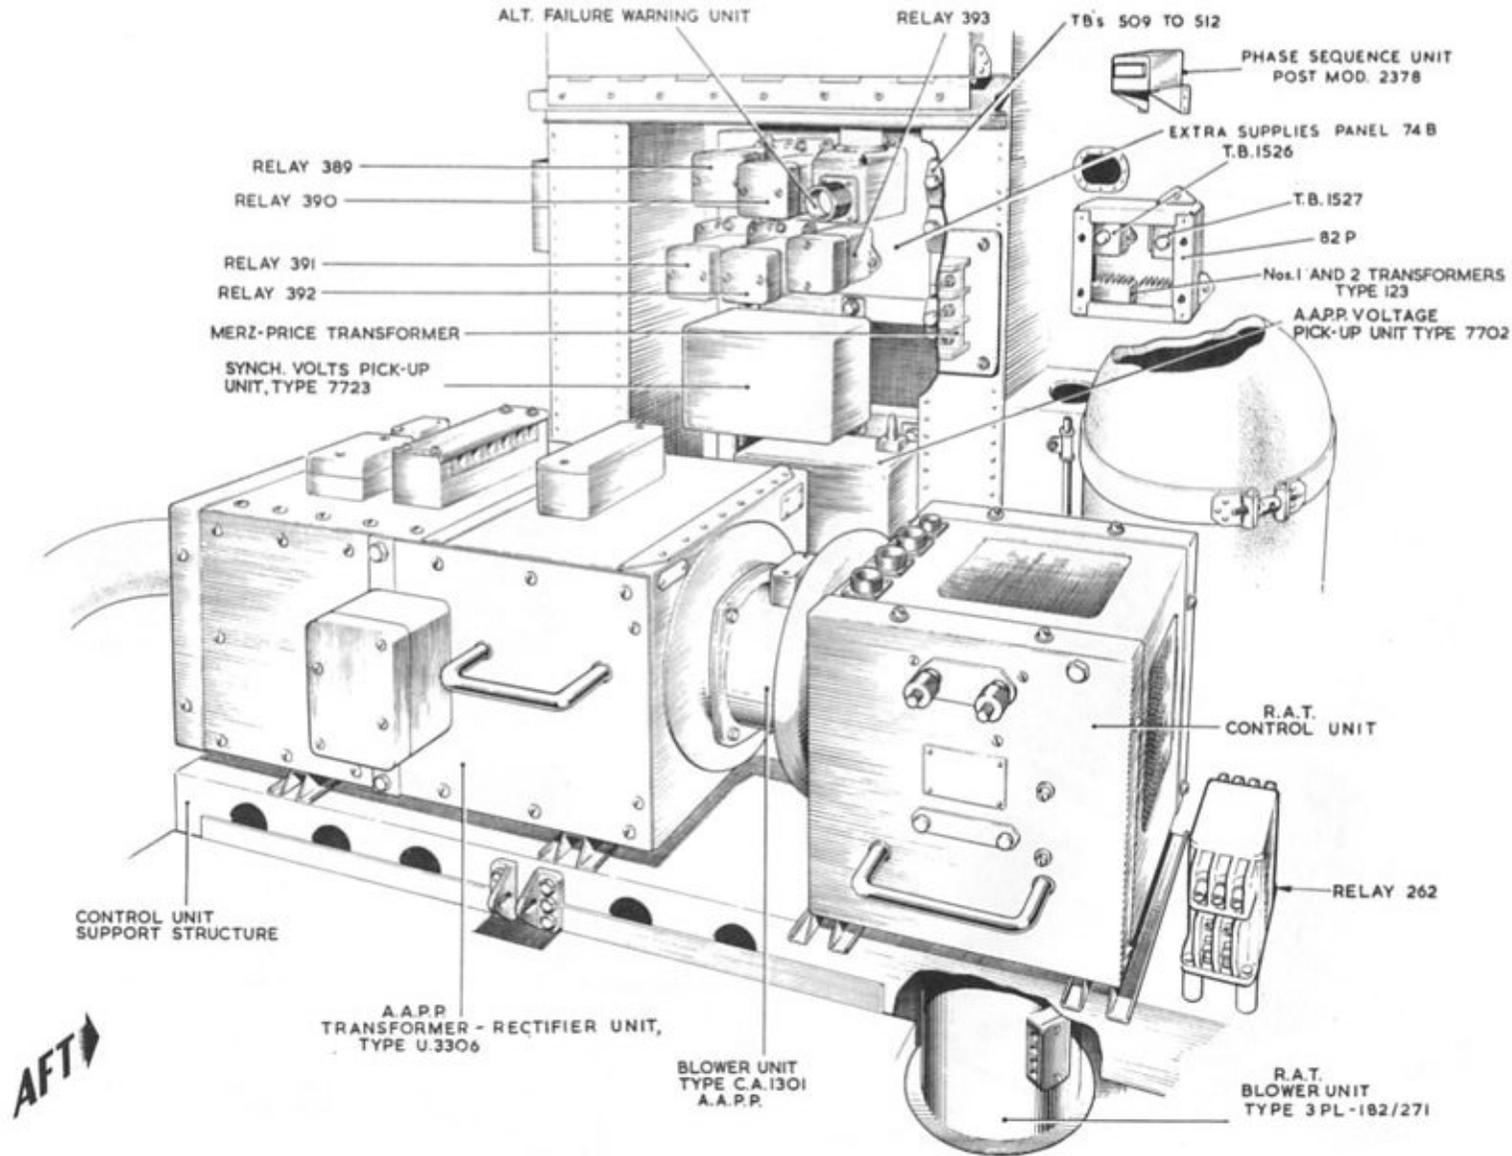

Fig. 3 Equipment in power compartment
11. The output voltage is controlled by a control unit, Type U3702/3, or 3C (Pre-Mod 2503), Type U3702/4 or 4C (Post Mod 2503) which employs a transducer circuit, and is fitted in the power compartment (fig.3). The supply to initially excite the alternator field is fed through the control unit via plug 4, pin B, and plug 2, pin D. A full description of the control unit is contained in A.P.113D 07123-1.